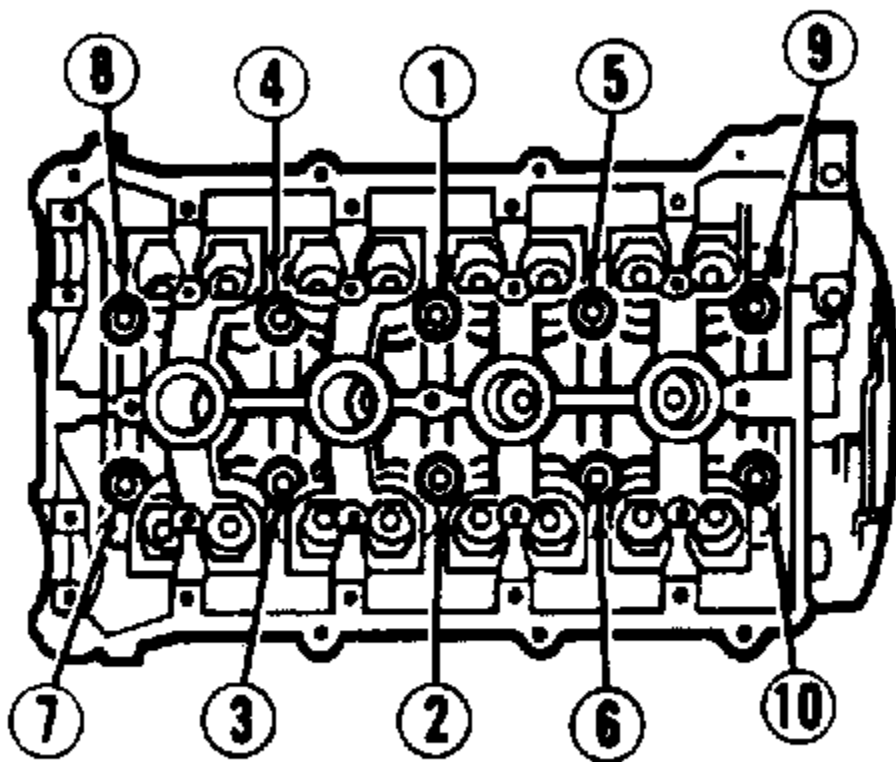

Fig. 2: Installing Cylinder Head Bolts (1.6L)
2. Ensure gasket surfaces of head and block are clean of old gasket and sealant. Place new head gasket on cylinder block. Carefully, place cylinder head on block. Tighten cylinder head in sequence and in two stages to correct specification. See **Fig. 2** .